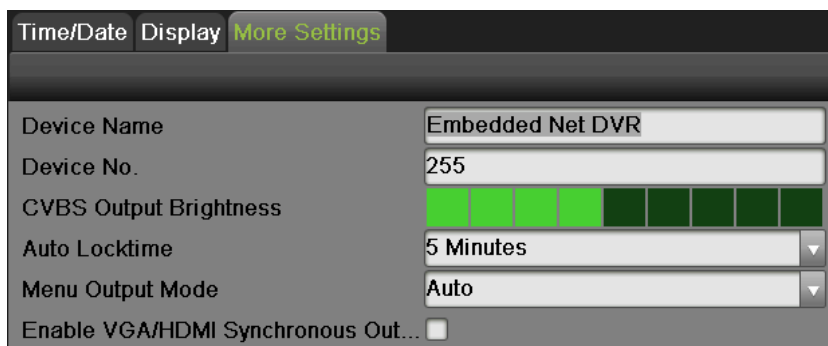

Figure 67 More Settings Menu
2. Set device name, device no., CVBS output brightness, auto lock time, menu output mode and VGA/HDMI synchronous output by going to Menu > System Configuration > General > More Settings, as shown in Figure 67.
3. Set the live view interface parameters and event output by going to Menu > System Configuration > Live View > General, as shown in **Figure 67**.